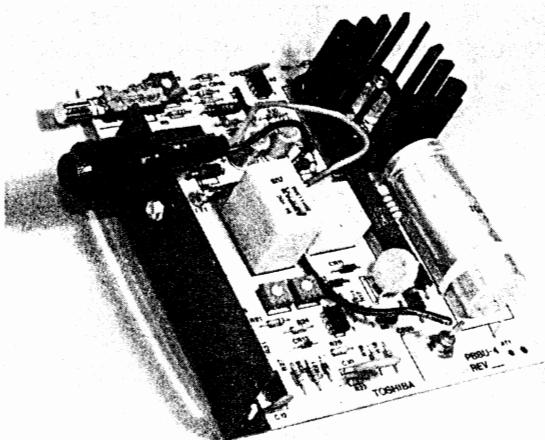

FIGURE 8
02.01 The power battery back-up unit (PBBU) in Figure 8 is an optional PCB which may be installed in the MPSA-200 to interface with two auxiliary 12-VDC batteries. In the event of an electrical power failure, the PBBU provides an automatic battery power source, permitting a typical STRATA VI system to continue normal operations for some time (in direct ratio with the type and size of the batteries chosen).
- The "Battery Override" switch (Figures 8 and 9) is placed in the **ON** position, or...